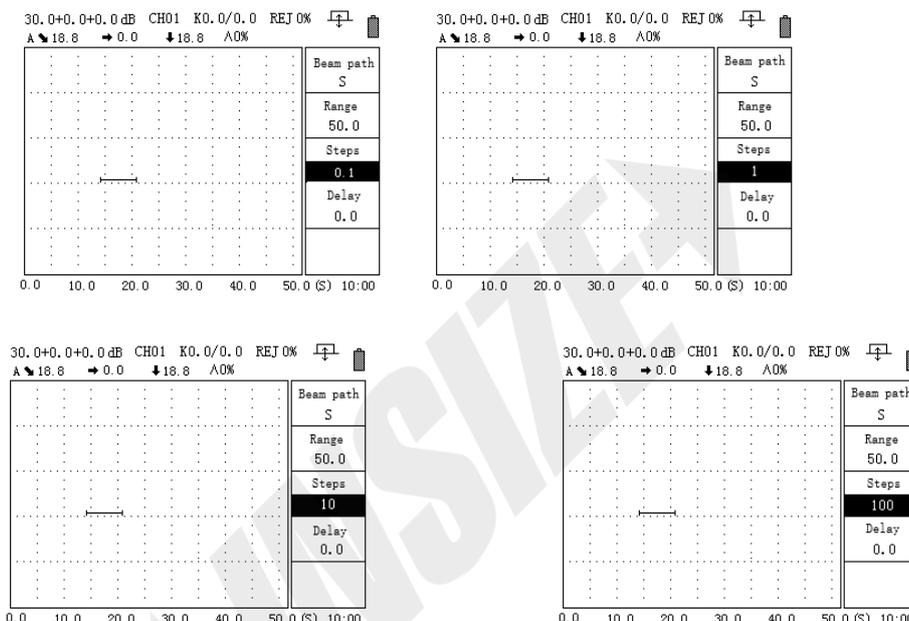

Figure2-12
0.1 means that the current range value is adjusted in 0.1mm steps, 1 means that the current range value is adjusted in 1mm steps, 10 means that the current range value is adjusted in 10mm steps, and similarly, 100 means that the current range value is adjusted in 100mm steps. As shown in Figure 2-12